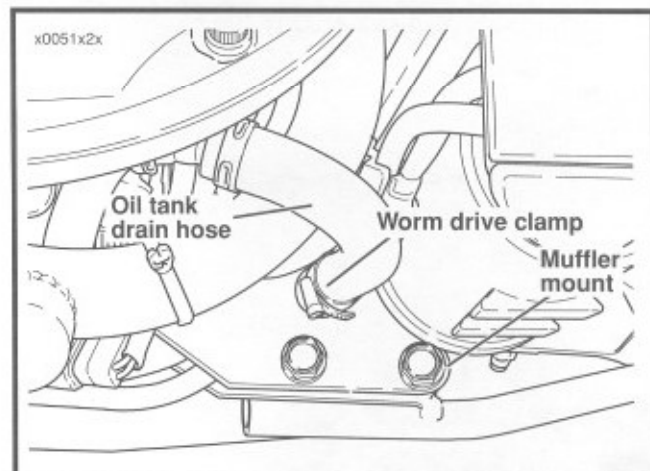

Figure 3-40. Oil Tank Drain Hose
3. Locate the oil tank drain hose (see Figure 3-40). The drain hose is secured to a lug on the rear muffler mount.
4. See Figure 3-40. Use Corbin clamp to secure oil tank drain hose to lug on muffler mount.